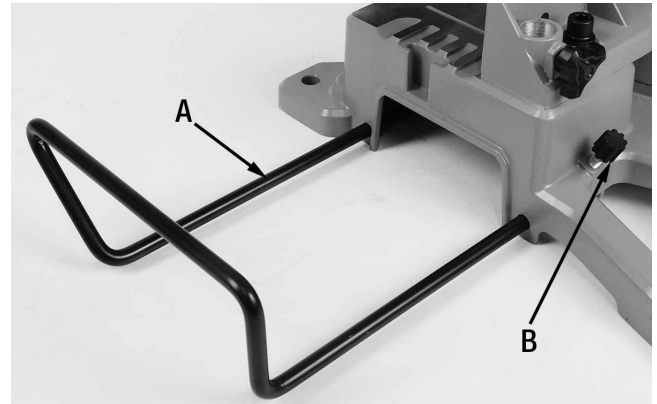

FIGURE 4
Before using this miter saw, it is recommended to use the extension wings to support your workpiece. Simply loosen extension wing lock knob (B) Fig.4, pull out the extension wing (A) and secure it in place by tightening the extension wing lock knob (B). Repeat for the other extension wing.